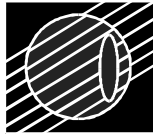

Figure1
21. Tighten the body bolts to the torque figures (table 1), and according to tightening sequence illustrated in figure 1.